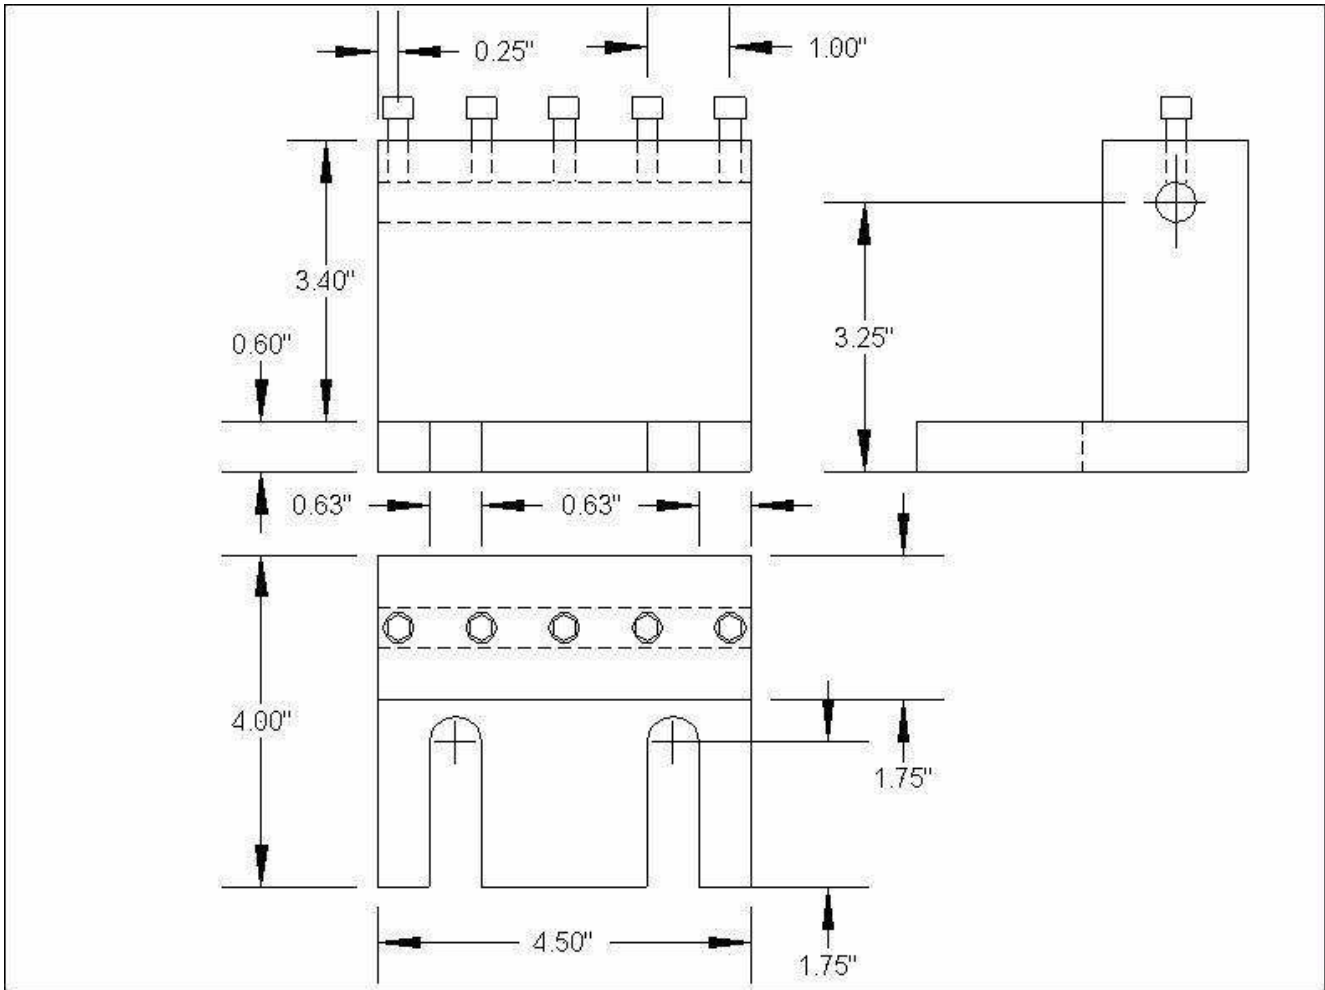

Figure 8 - Boring Bar Tool Holder
- Figure 8 - Boring Bar Tool Holder . . . . . 6